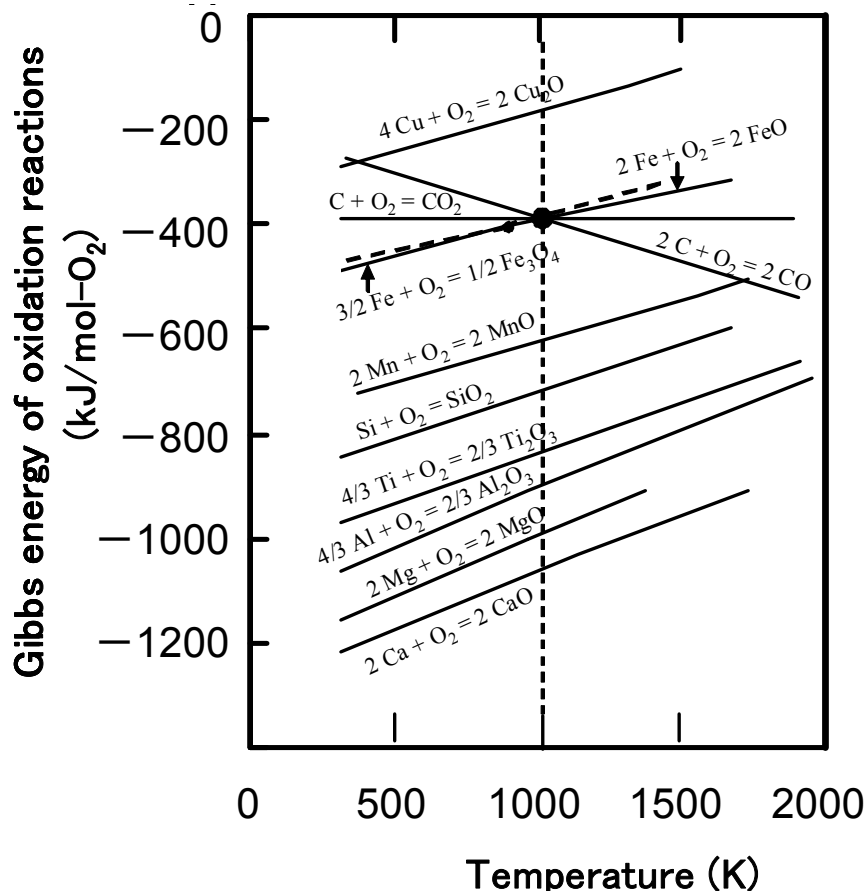

Figure 1. Gibbs energy of oxidation reaction – temperature diagram. (Ellingham Diagram)
When metal “M” is oxidized by one mole of oxygen gas to form an oxide M_mO_n (m, n : integers), the reaction can be expressed as (i). The standard Gibbs energy change of this reaction, ΔG° , can be expressed as (ii) in terms of standard (iii) change, ΔH° , and standard (iv) change, ΔS° , of this reaction at an absolute temperature T . On the other hand, when a pure metal M and a pure oxide M_mO_n are in equilibrium state at an absolute temperature T , the oxygen partial pressure p_{O_2} can be derived as (v) using ΔG° and the gas constant R . The diagram where ΔG° values for various oxidation reactions are drawn as a function of absolute temperature is called an “Ellingham Diagram” (Figure 1). As can be seen in the figure, most relations are drawn by a straight line and the metals existing in the lower part tend to be (vi) compared to those in the upper part.
- b) When both the reactants and the products are in the condensed state (solid or liquid) in Figure 1, the slope of each line in the diagram shows an almost identical value. The line is horizontal in the case of CO_2 gas, and the slope shows a different sign with the same absolute value in the case of CO gas. Explain why.
- e) Show the points through which any lines of constant oxygen partial pressure p_{O_2} and those with a constant value of the ratio of CO gas partial pressure to CO_2 gas partial pressure $p_{\text{CO}}/p_{\text{CO}_2}$ pass, respectively, in Figure 1.